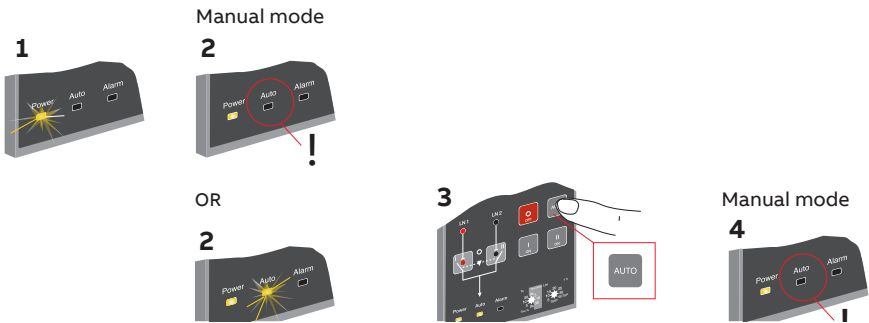

Figure 6.1 Selecting the automatic control unit OMD100 to Manual Mode
- a. Make sure that the power LED is ON, see the Figure 6.1/①.
- b. If the Auto LED is OFF /②, the automatic control unit is in Manual Mode.
- c. If the Auto LED is ON, push the Auto key once /③. The Auto LED switches to OFF and the automatic control unit OMD100 is in Manual Mode /④.